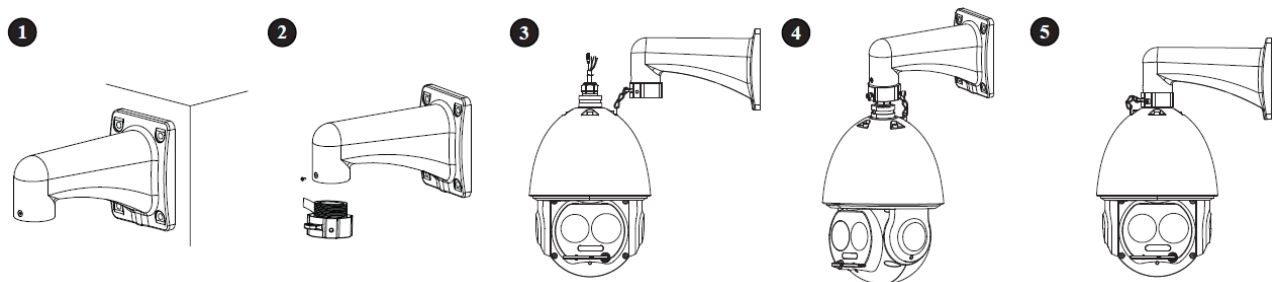

Figure 3-2
Dig holes on the installation wall, fix the expansion bolt, and tighten the hex nut, as it is shown in Figure 3-2 (1).
Screw the quick installation connector into the wall mount bracket and fix it with stainless screws, as it is shown in Figure 3-2 (2).
Buckle it into the safety hook, connect to cable and use insulated rubber tape to make the device waterproof, as it is shown in Figure 3-2 (3).
Put the cable into the wall-mounted bracket and fix the thermal hybrid dome on the bracket by using stainless screws, as it is shown in Figure 3-2 (4).
Check if the thermal hybrid dome is fixed firmly, and complete the installation of the unit device, as it is shown in Figure 3-2 (5).